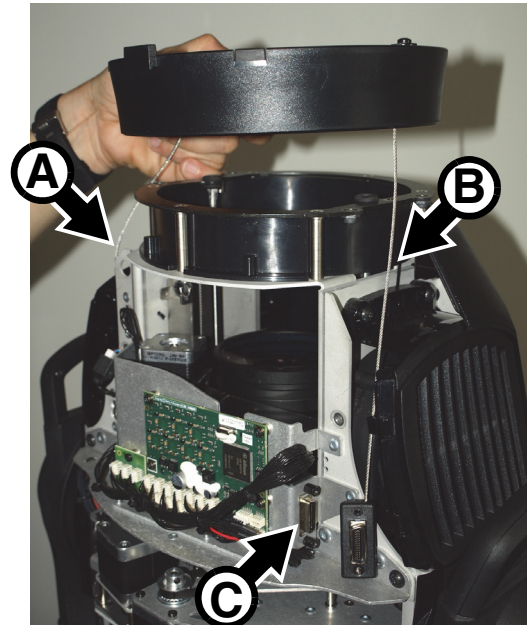

Figure 4
9. See Figure 4. Line up the Beam Kit mounting collar over the head so that the kit's safety wire will pass through the cutout **A** in the front of the head above the safety wire attachment point and the connector attachment wire will pass through the cutout **B** in the opposite side of the head, above the lens accessory socket **C**.